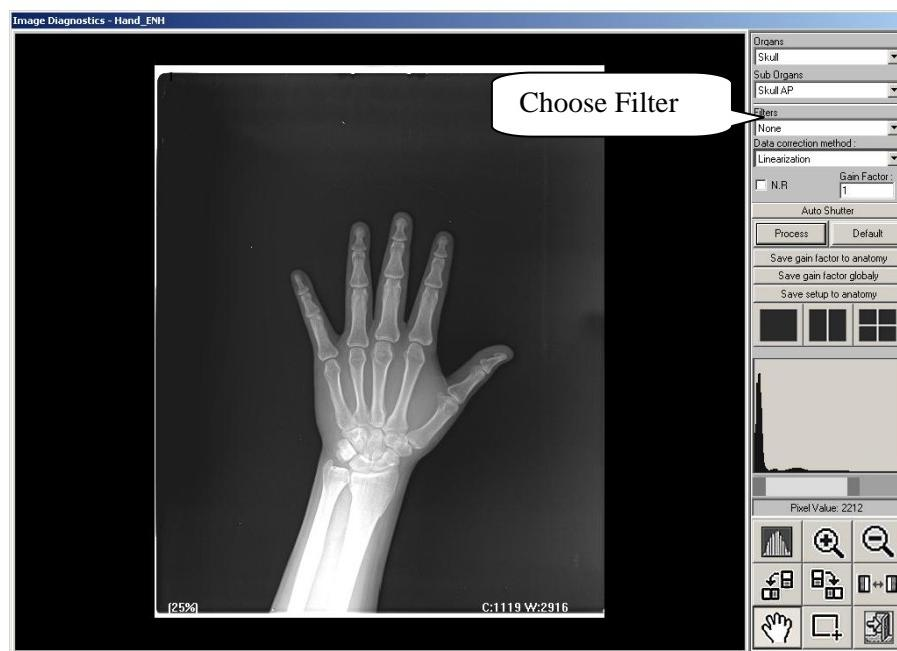

Figure 14: The Image Diagnostics Screen
2. The Image Diagnostics screen opens (Figure 14):
1. Choose a filter from the dropdown list (Figure 14) and click the **process** button to see its affect on the image.